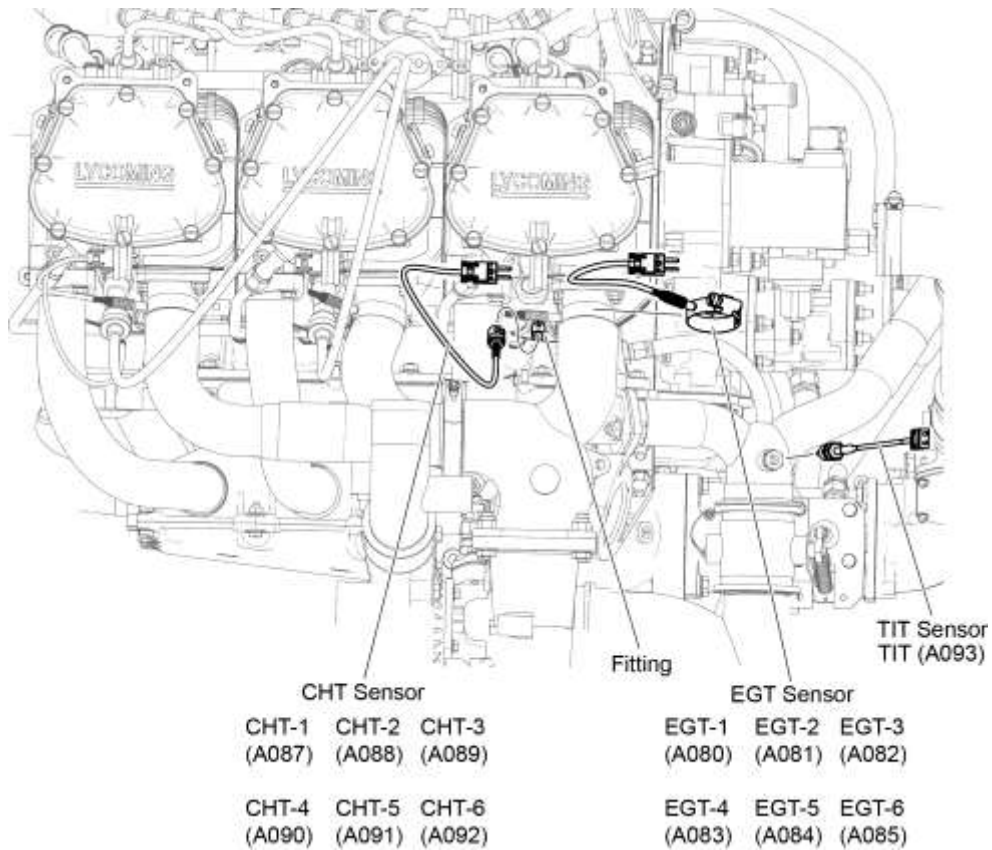

Figure 36
- F. Disconnect the connector A093-P (TIT) (Figure 36) from the sensor for the turbocharger inlet on the left side (exhaust bypass valve side) of the engine.